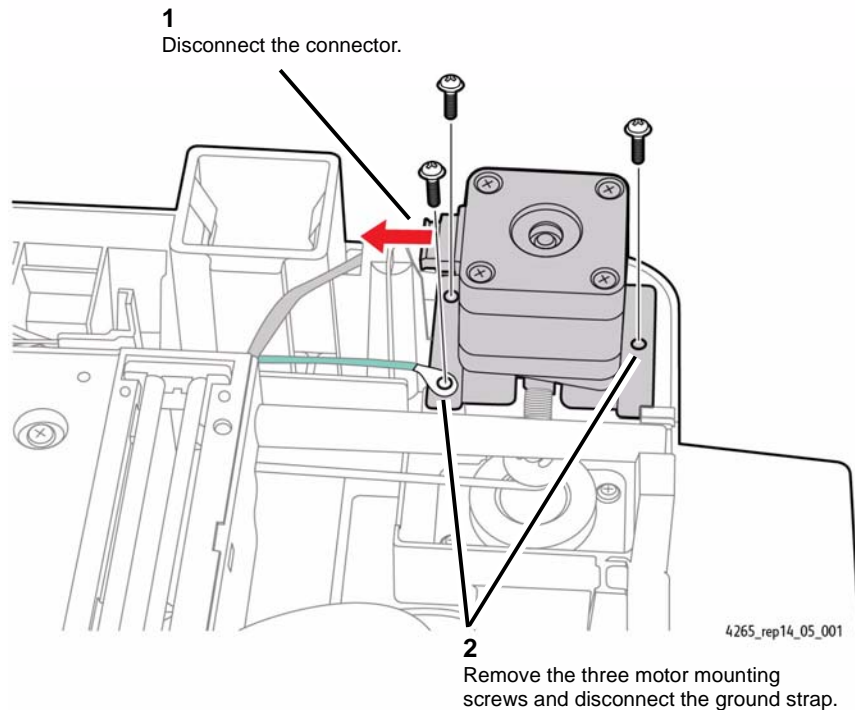

Figure 1 Preparing to Remove the Scanner Motor
2. Prepare to remove the Scanner Motor (Figure 1).